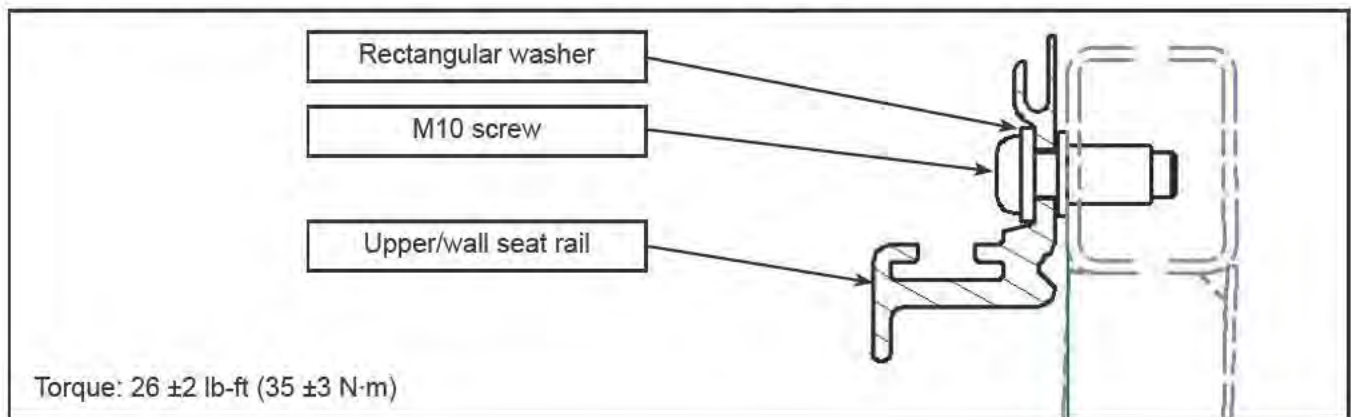

Figure 7 - Upper/Wall Seat Rail
- d. From the rear to the front, make a first tightening to the torque value shown in Figure 7.